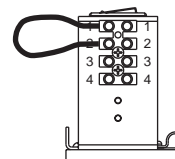

Figure 6
Step 13: Using a short jumper cable, jump terminals 1 and 2, see Fig. 6 below, to activate unit. When door reaches 20°, switch Breaker Switch to "OFF" position cutting power to the unit. Allow door to fully close (door may be manually pulled closed).